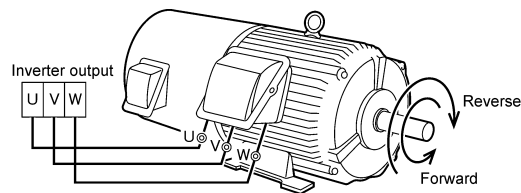

Figure 3-4-3 Motor Rotating Directions
- 1) the motor runs in the selected direction (see Figure 3-4-3),